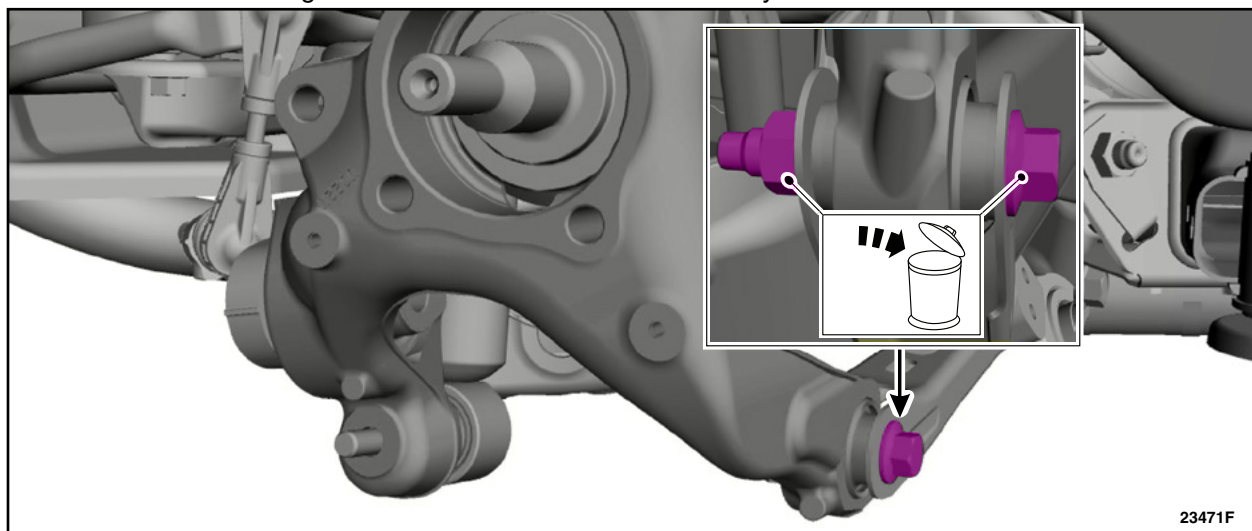

FIGURE 6
10. Remove and discard the LH rear toe link-to-wheel knuckle bolt and nut. See Figure 6.